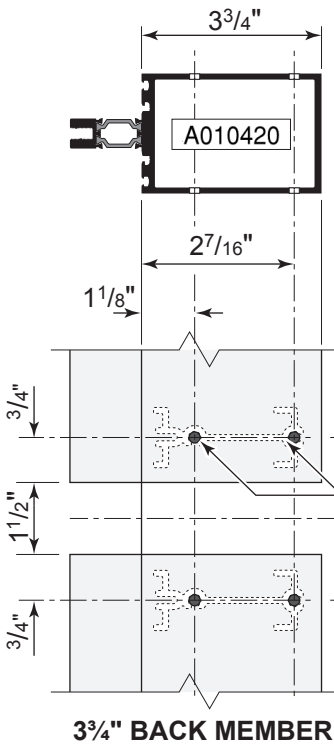
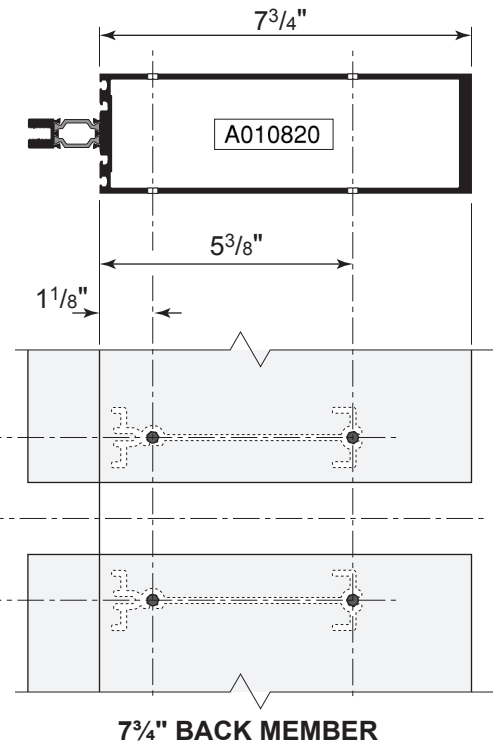

Fig. 26.1
Fig. 26.3
- b. **Expansion Horizontals** – EA,ED for 3³/₄" and 5¹/₄" back members; EA,EF for 7³/₄" back members. See Fig. 26.1 through Fig. 26.3.